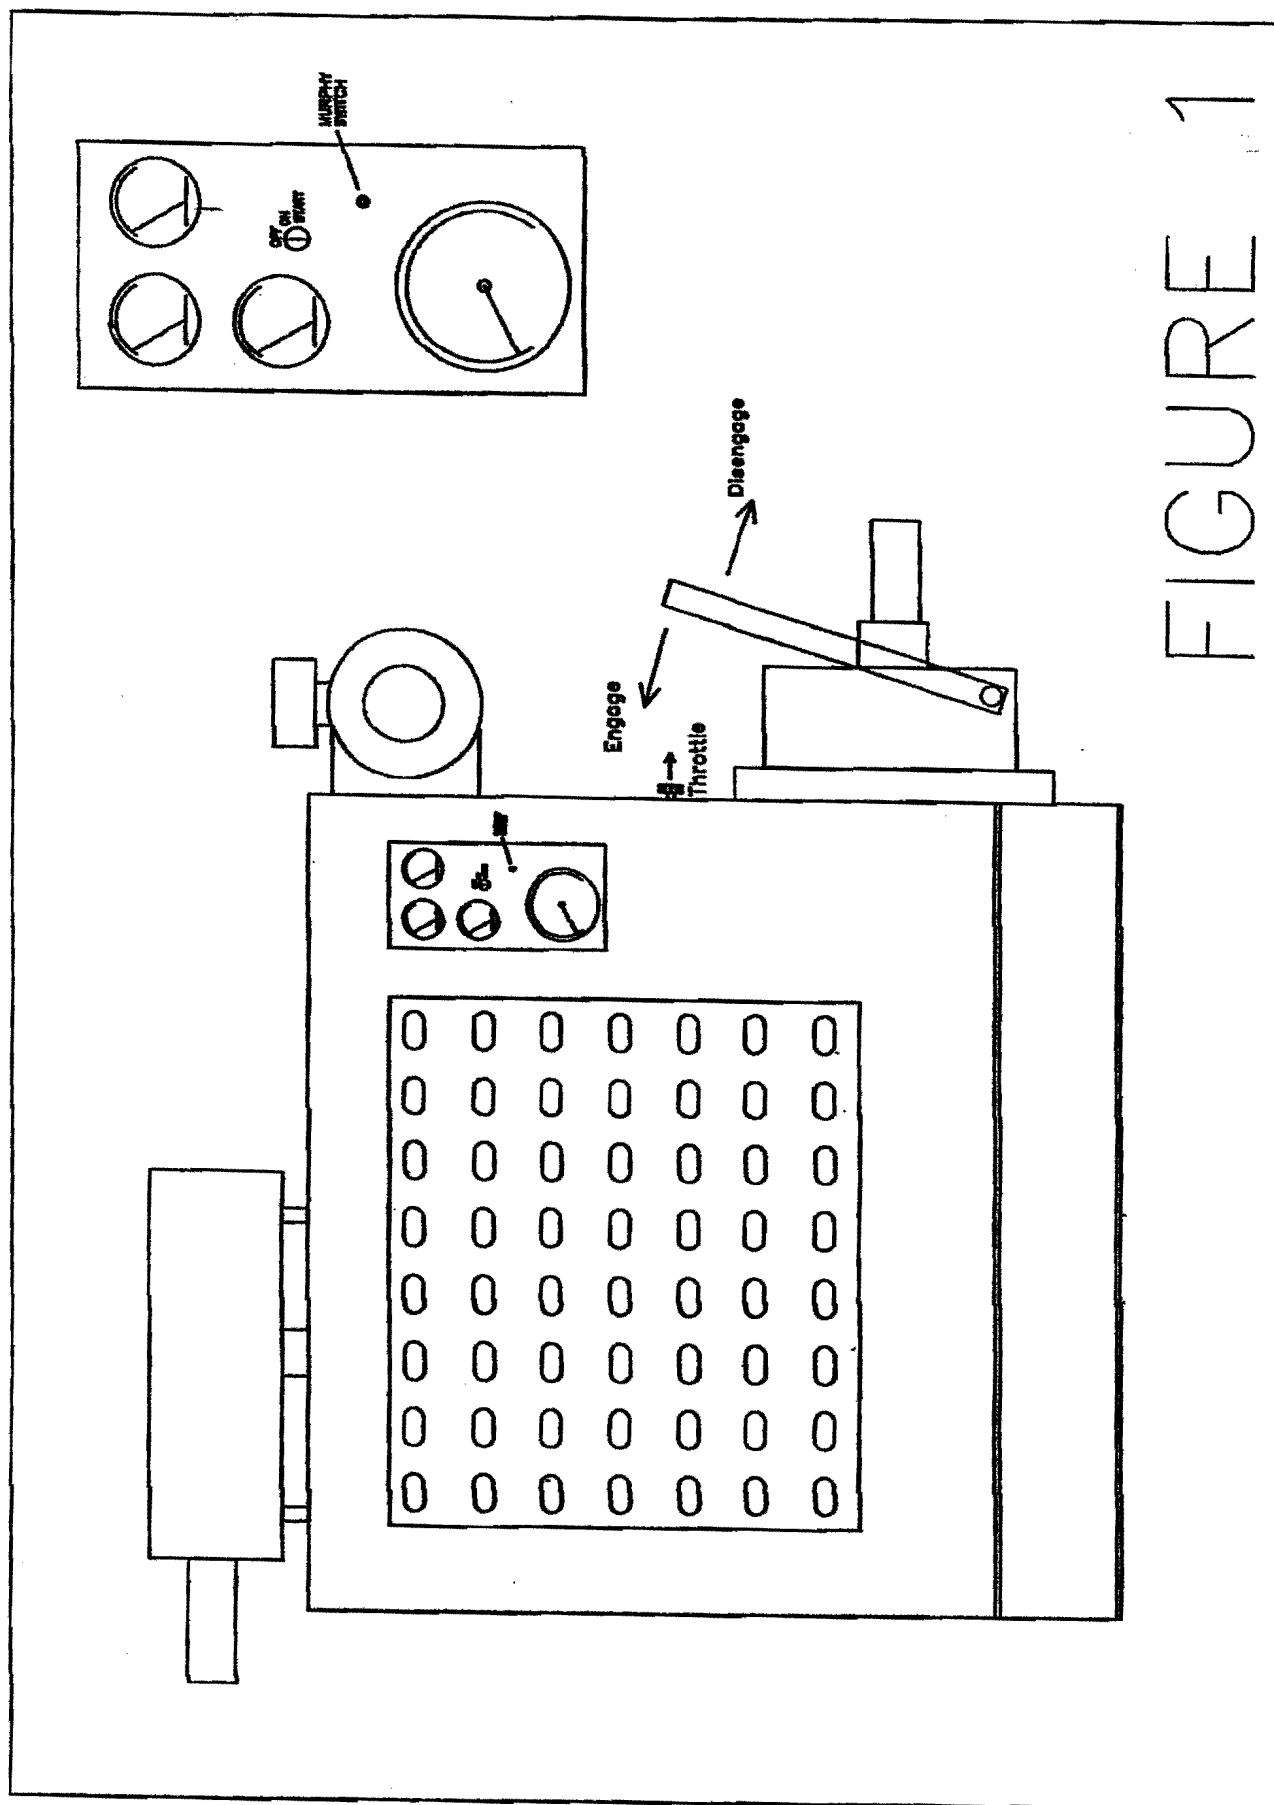

FIGURE 1
- 1) Disengage the clutch lever as shown in FIGURE 1.
- 5) Engage clutch as shown in FIGURE 1.